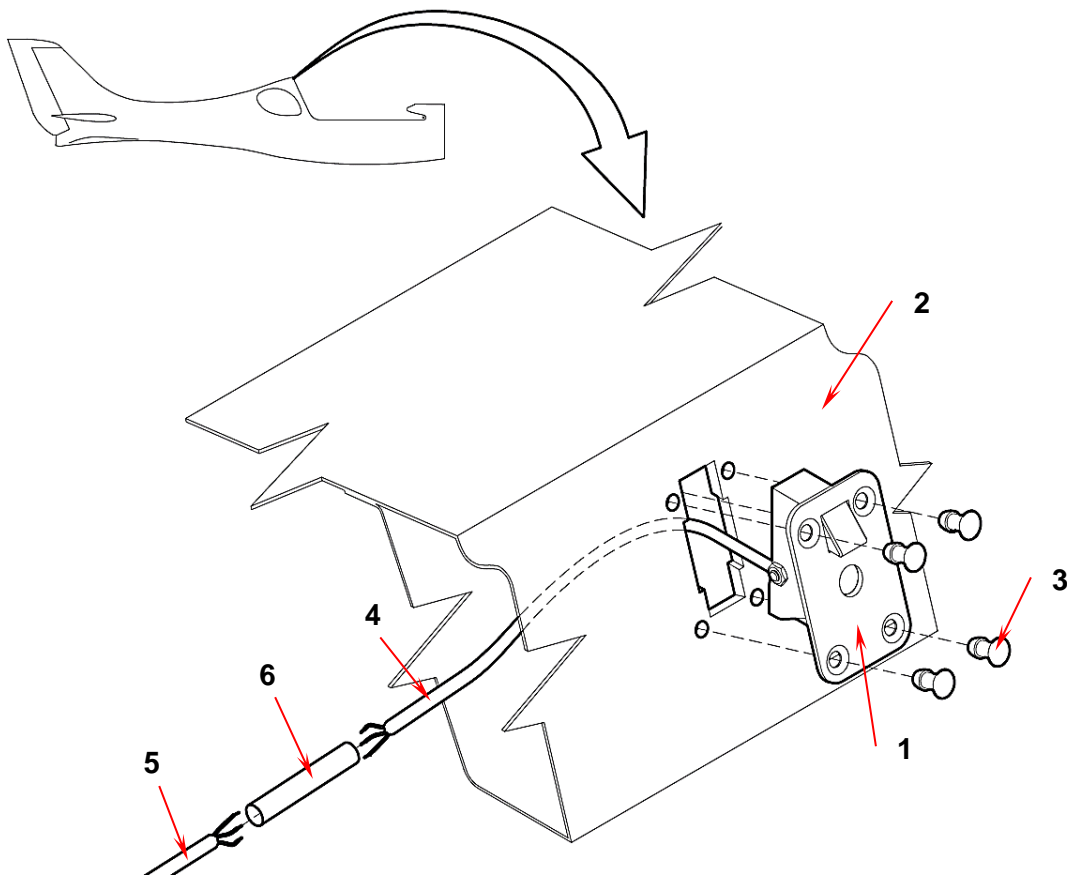
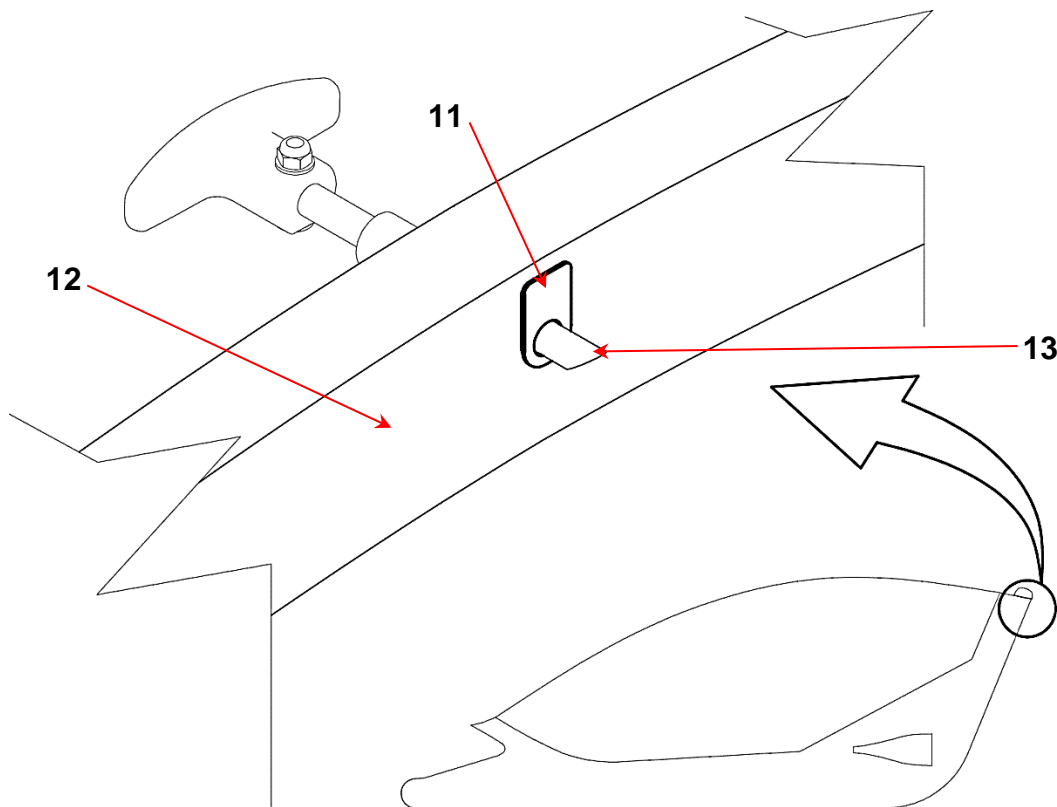
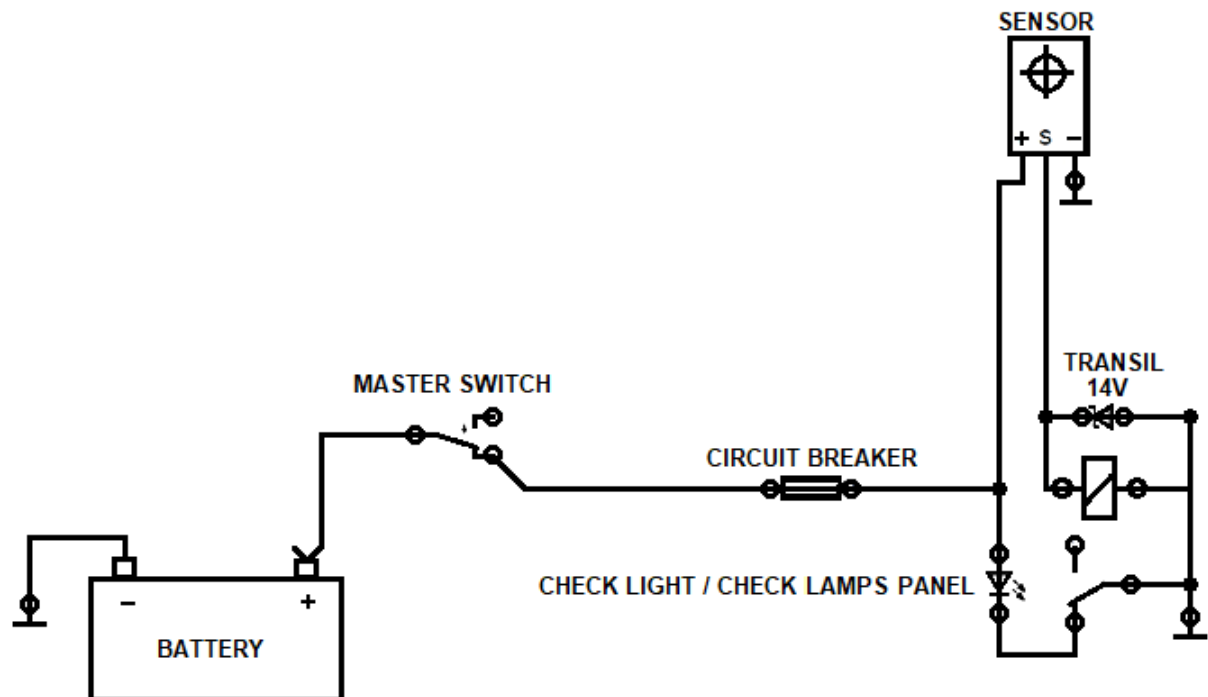

Fig. 3
Fig. 7
Fig. 10
- 2.1. Put the insulation (6, Fig. 3) on the cable (5), solder the wires (4, 5) according to wiring diagram (Fig. 10).
- 2.2. Place the insulation (6, Fig. 3) on the joint and apply heat to shrink it.
- 2.5. Place the canopy lock socket (1, Fig. 3) into the fuselage (2) and attach it by rivets (3) (see Fig. 7).
- 2.7. Connect the cable (7) to the check lamp and circuit breaker according to wiring diagram (Fig. 10).
- 2.8. Bond the protective plate (11, Fig. 7) on the canopy frame (12) using Araldite 2022-1 in the position according to main latch (13).
- 3.1.2. Connect the sensor of canopy lock socket to the check lamp and circuit breaker according to wiring diagram (Fig. 10).
- 3.2.1. Connect the sensor of canopy lock socket to the pin No. 8 of connector DB37 of check lamps panel and to the circuit breaker of check lamps panel according to wiring diagram (Fig. 10).